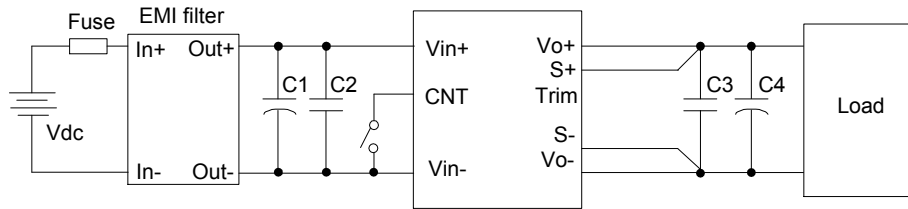

Figure 11 Typical application
Figure 4 Dynamic response for 25% load step (50% ~ 75% ~ 50%) and 0.1A/ μ s slew rate, (2ms/div), see Figure 11 for test configuration; CH1-output voltage (50mV/div); CH2-output current (2A/div)
Figure 5 Dynamic response for 25% load step (50% ~ 75% ~ 50%) and 1A/ μ s slew rate, (2ms/div), see Figure 11 for test configuration; CH1-output voltage (50mV/div); CH2-output current (2A/div)
If the load is far from the unit, connect S+ and S- to the terminal of the load respectively to compensate the voltage drop on the transmission line. See Figure 11. If the sense compensate function is not necessary, connect S+ to Vo+ and S- to Vo- directly.
C1 ~ C4: See Figure 11
- C1 ~ C4: See Figure 11